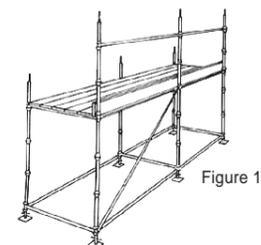

Figure 11
**12** Planks are now moved up to fully deck out the the first lift. Refer Figure 11. When these Planks remain in place as a Working Platform, Ledgers are positioned at 0.5m and 1m above the planked level to form a **guardrail and mid rail on the outer face**. For working platforms, **toeboards** on the outer face are also required. A Mesh Panel which incorporates a toeboard 1m high can be used in lieu of a midrail and toeboard.